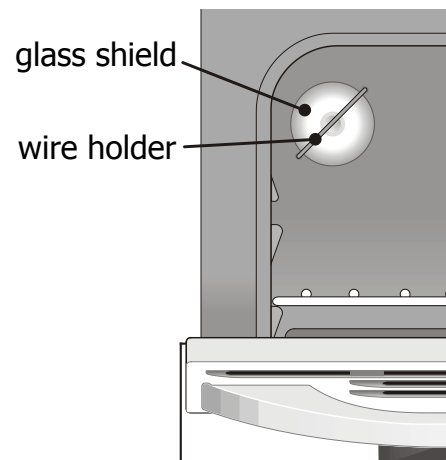

Fig.1
2. Open oven door for access to interior oven light. Once located, press wire holder to one side to release the glass shield (See Fig. 1).